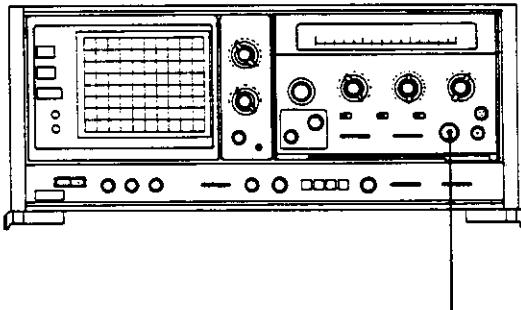

Fig. 4-12 IF FILTER Adjustment Setup
- (1) Turn **TUNING** fully counter-clockwise. Adjust R84 (Lo. F) to correspond the zero frequency to the 4th vertical line from the right on the **CRT**. [Fig. 4-12(a)].
- (2) Turn **TUNING** fully clockwise. Adjust R86 (Hi. F) to correspond 10th harmonic (1000MHz) signal to the 4th vertical line from the left. [Fig. 4-12(b)]
- (1) Remove the cover of **IF FILTER** (Board SK030) and loosely couple on L307 to the Spectrum Analyzer. (Fig. 4-12)